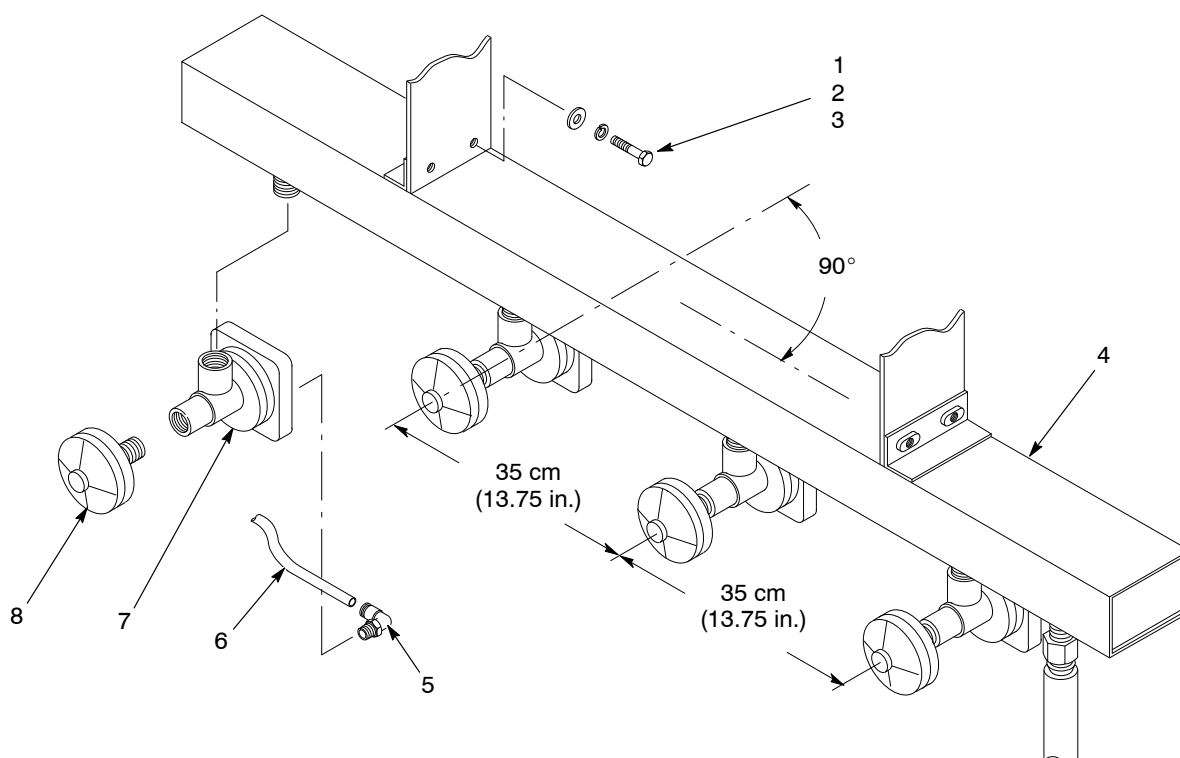

Figure 7-5 Pulse Valve Replacement (Horizon 400 Shown)
2. See Figure 7-5. Disconnect the pilot air tubing (6) from the pulse-valve tube fitting (5).
3. Unscrew the pulse valve (7) from the manifold nipple.
4. Remove the tube fitting and nozzle (8) from the old valve. Wrap PTFE tape around the threads of the tube fitting and nozzle. Install the fitting and nozzle into the new valve.
6. Adjust the valve so the centerline through the nozzle and valve is perpendicular (90°) to the manifold centerline (4).